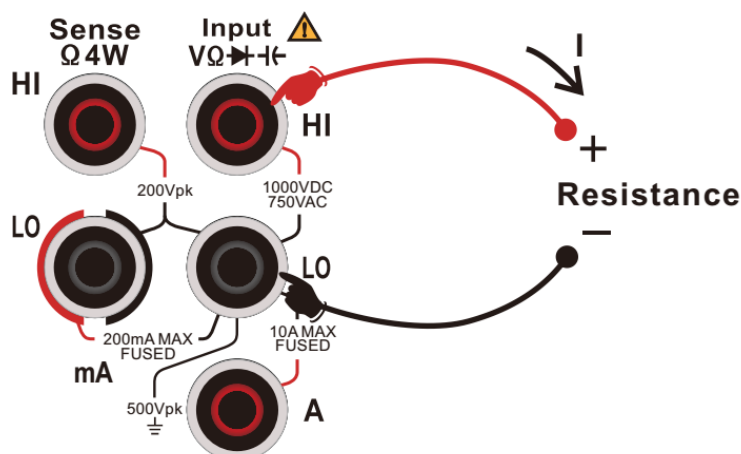

Figure 0-23 Measuring Connection of 2-wire Resistance Measurement
- As shown in Figure 0-23, connect the test lead to the resistance to be measured. The red test lead is connected to the input jack "HI" end, the black test lead is connected to the input jack "LO" end, the above two test lines are constant current source output circuit; the red test lead is connected to the input jack "HI Sense" end, the black test lead is connected to the input jack.